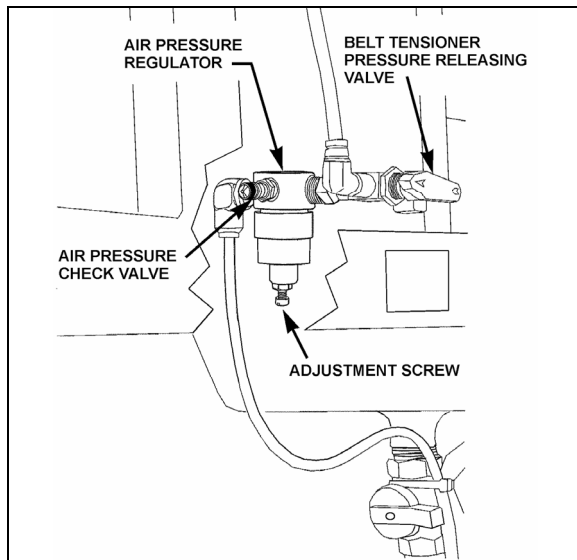

FIGURE 18: AIR PRESSURE REGULATOR
1. Open engine compartment rear doors and locate the belt tensioner pressure releasing valve (Fig. 18), mounted above the engine R.H. side door next to the air pressure regulator, then turn handle clockwise in
4. Reset belt tensioner pressure releasing valve (Fig. 18) to 50 psi (345 kPa) to apply tension on the new belts as explained in Section 12.